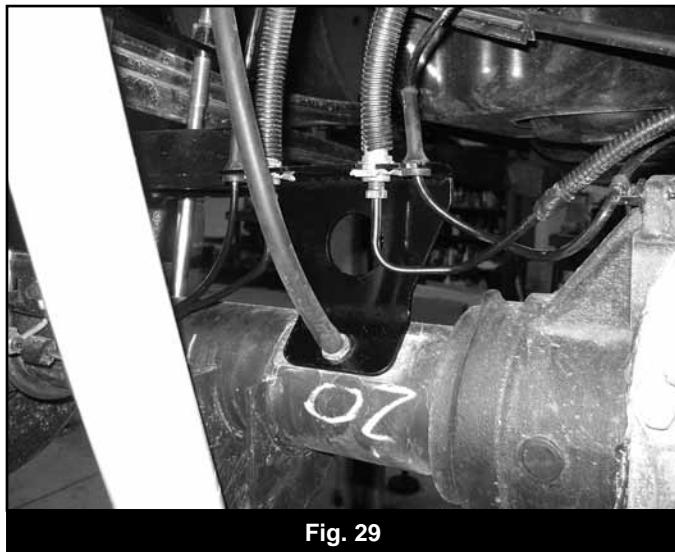

Fig. 29
76. Install new brakeline relocation bracket on the axle with stock breather tube stud. Install brakelines with original clips into the new bracket. Attach ABS wires into the new bracket. Attach diff breather line to the axle breather stud. (Fig 29).